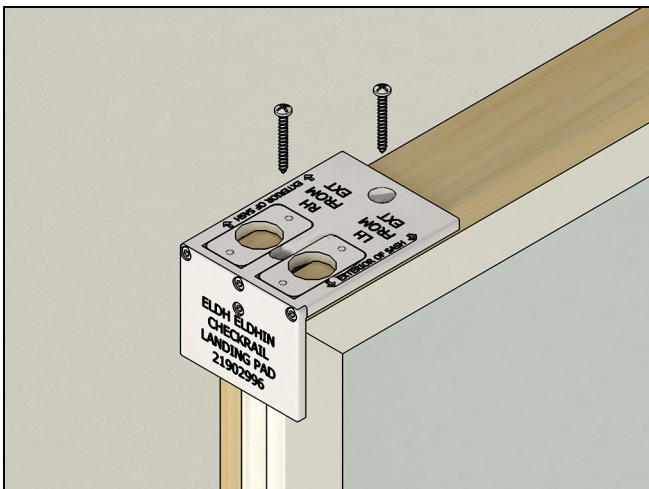

Figure 8
17. Remove the tilt latch with a Phillips screw driver. The screws used to fasten the tilt latch will be used to fasten the WOCD check rail jig. See Figure 8.
18. Place the WOCD check rail jig in the tilt latch recess on the bottom sash. Fasten with the tilt latch screw. See Figure 8.